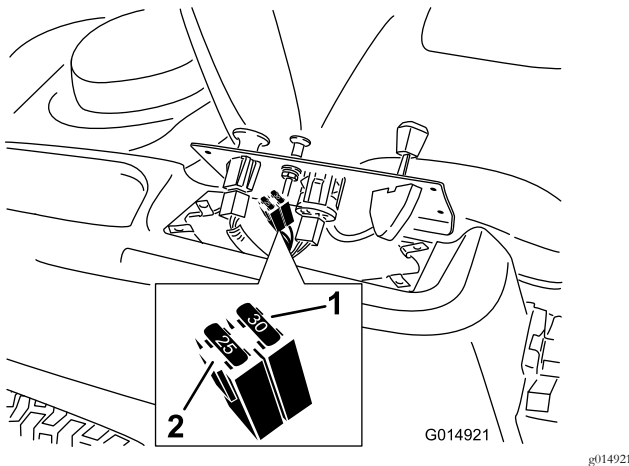

Figure 47
2. Lift the control pane up to access the main wire harness and fuse block (Figure 47).
3. To replace a fuse, pull out on the fuse to remove it (Figure 47).